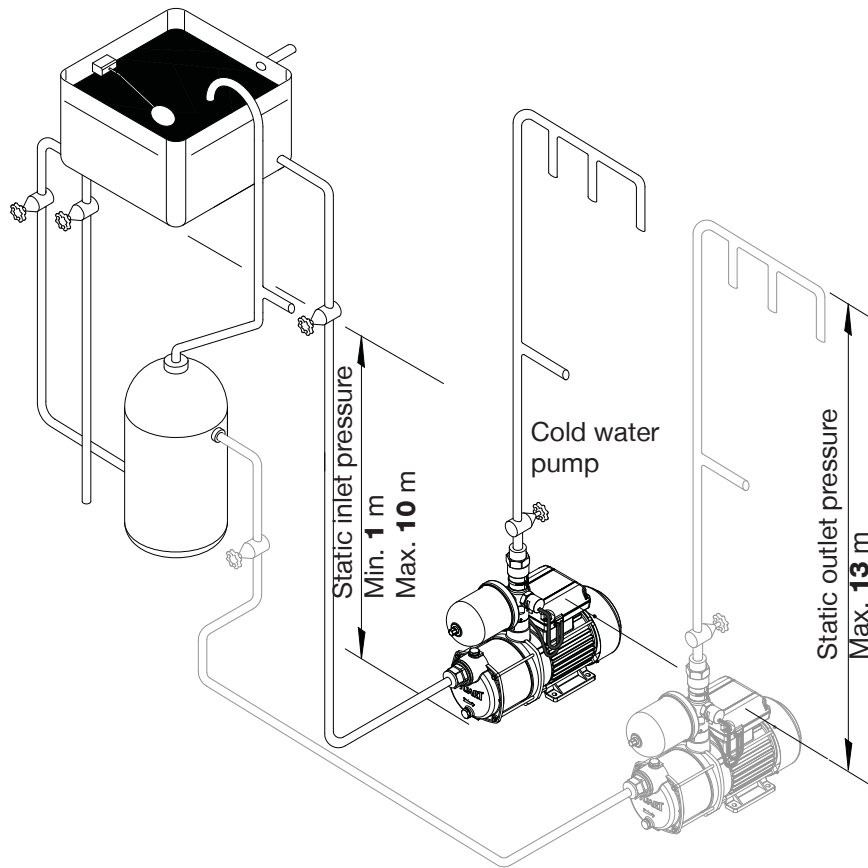

Fig. 4
- 2.16 **Static inlet pressure:** Before deciding where to locate the unit check to ensure the static inlet head between pump and cold water level (Figs. 4 & 5) is at least 1 metre and does not exceed the max inlet head of 10 metres.
- 2.19 **Static outlet pressure:** The static outlet head (Figs. 4 & 5) must also be within the maximum requirement of 13 metres.